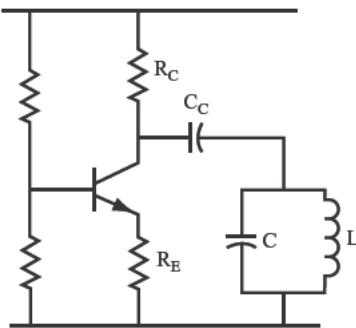
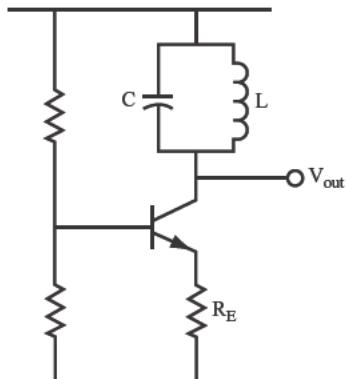

FIGURE 9.8
FIGURE 9.9
- 8** Figure 9.8 shows an amplifier circuit with a parallel inductor and capacitor connected between the collector of the transistor and ground. A parallel inductor and capacitor circuit is sometimes called a *tuned* (or *resonant*) *load*.
NOTE The circuit shown in Figure 9.8 does not have an input signal either to the emitter or to the base. By adding a feedback connection to a parallel LC circuit, you provide an input signal to the emitter or base, as explained later in this chapter.
- 12** Figure 9.9 shows the parallel LC circuit connected between the collector and the supply voltage, rather than between the collector and ground (as in Figure 9.8).
You can use this circuit and the circuit shown in Figure 9.8 to selectively amplify one frequency far more than others.